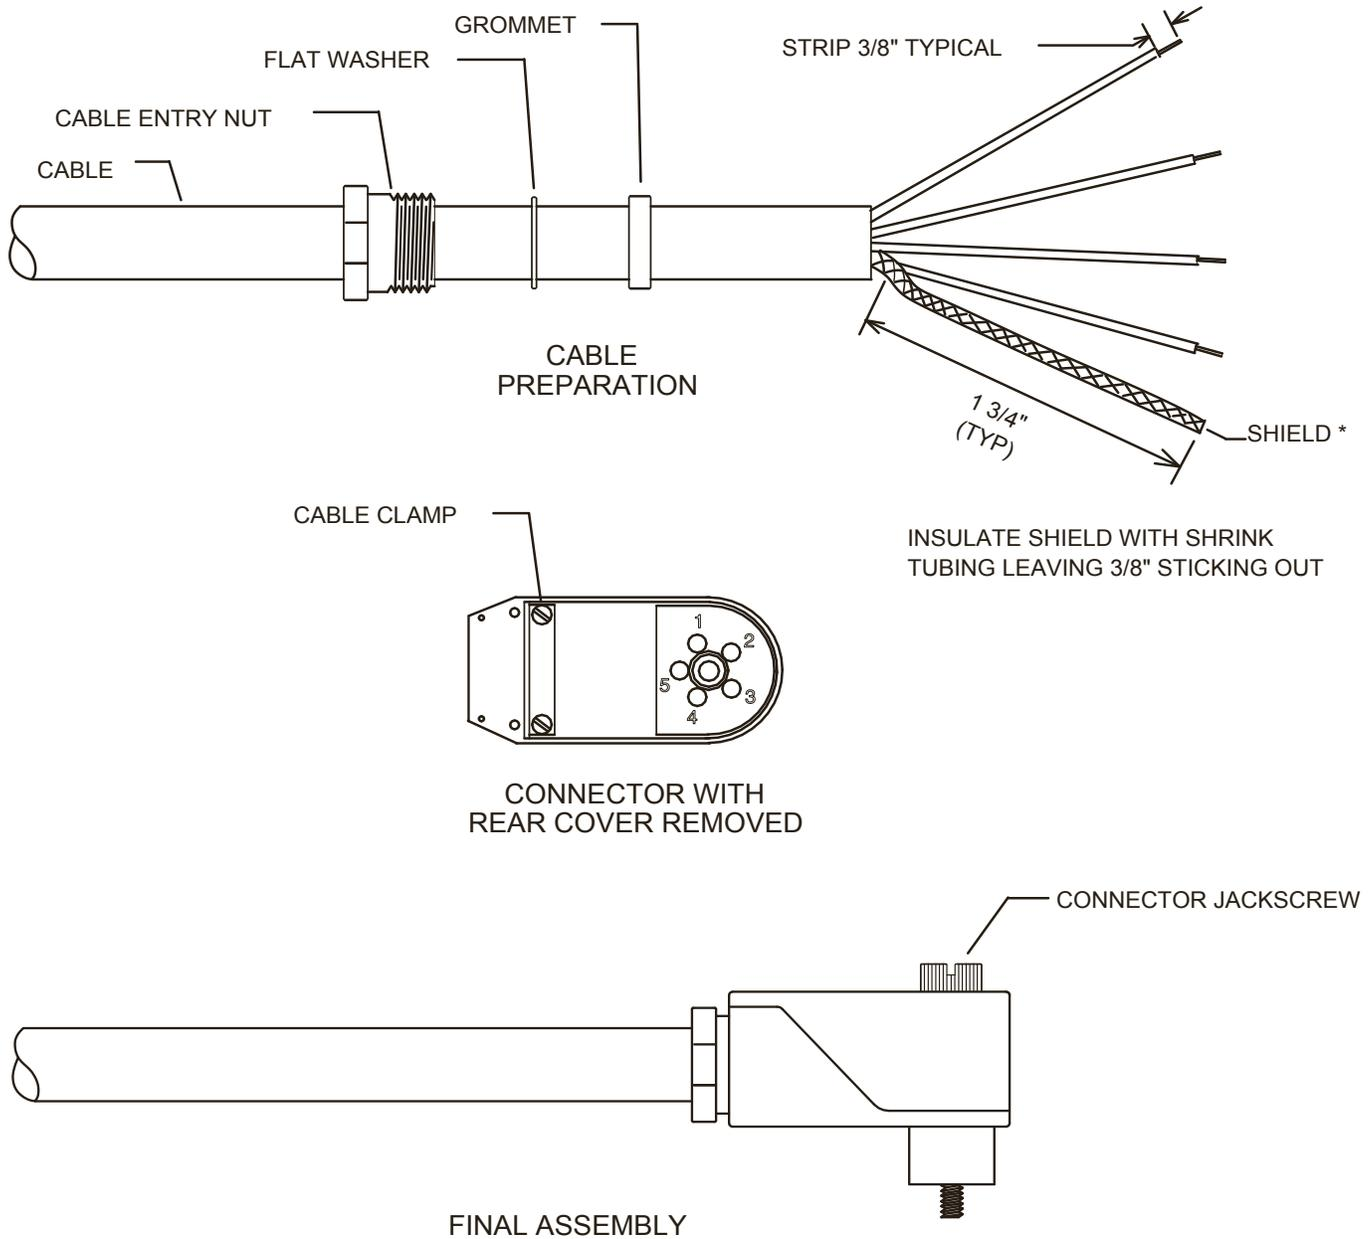

FIGURE 2: CONNECTOR WIRING
Connection of the IRIS type C328 cable to the viewing head plug is shown on the following page in **FIGURE 2, CONNECTOR WIRING**, and should be done as follows:
8. Strip each wire 3/8" as shown in the assembly drawing figure 2 on the following page.